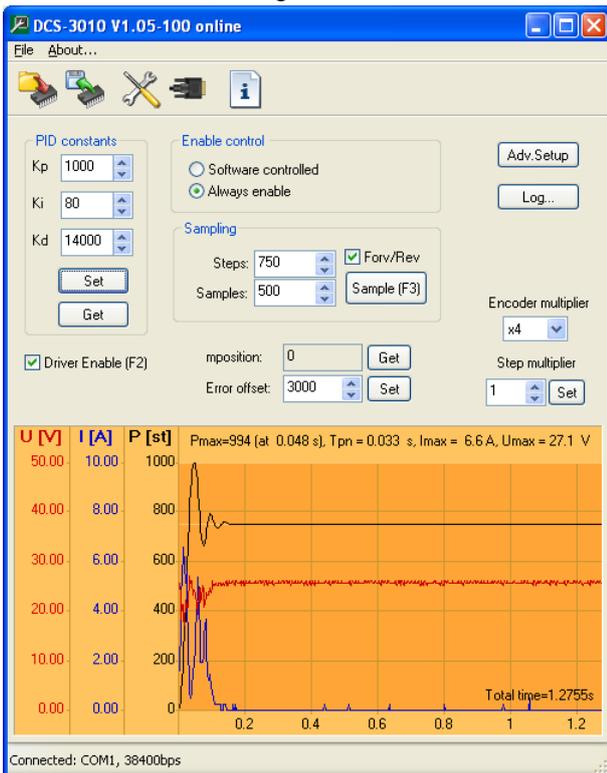

Figure 21
**STEP 3:** Gradually increase the constants  $K_p$  and  $K_i$  to the response as shown in Figure 21. Here it should be noted that the constant  $K_i$  is much smaller compared to the other two constants.